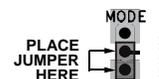

Figure 6. Disabled Jumper Position
- Use a jumper to connect the bottom two pins of the MODE test bus. This jumper connects MODE to GND and places the ADP1974 in boost/recycle mode (see Figure 6).